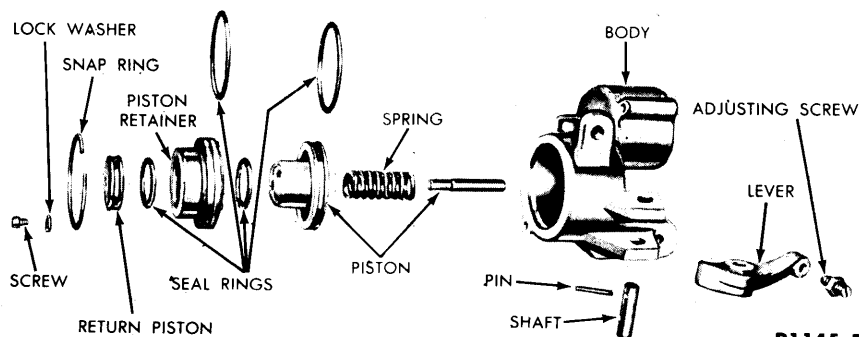

FIG. 45—Front Servo Disassembled
1. Remove the servo piston retainer snap ring (Fig. 45). The servo piston is spring loaded. **Apply pressure to the piston when removing the snap ring.**
5. Inspect the servo body for cracks and the piston bore and the servo piston stem for scores (Fig. 45). Check fluid passages for obstructions.